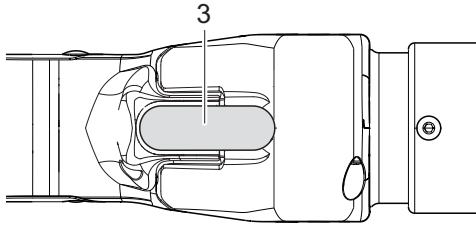

Fig. 15: Start closure
2. Press the START button (Fig. 15/3) and hold it down.
1. Release the START button (Fig. 15/3).